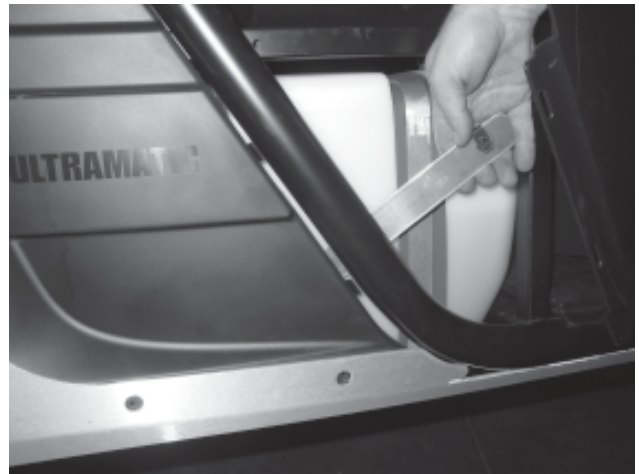

Figure 9
13. Hold backing plate in place while installing M6 fasteners. **(Figure 9)**